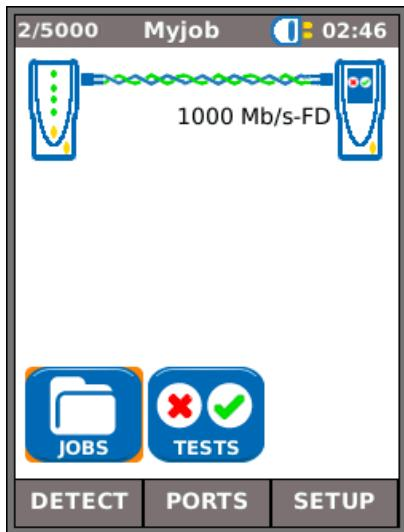

Fig 8
(1) When the Near-End Unit and Remote Unit are directly connected, with copper or fiber cable, press the soft key DETECT (F1) to detect all options available (Fig 8). In addition to wiremap tests (copper), cable performance can be tested and measured. For a full description of these options see *Tests menu description - Ethernet mode*, page 24.